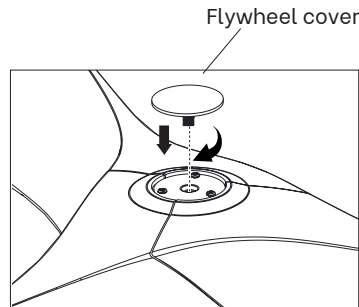

Fig. 7
5. Attach the flywheel cover and screw it onto the flywheel (Fig. 7).